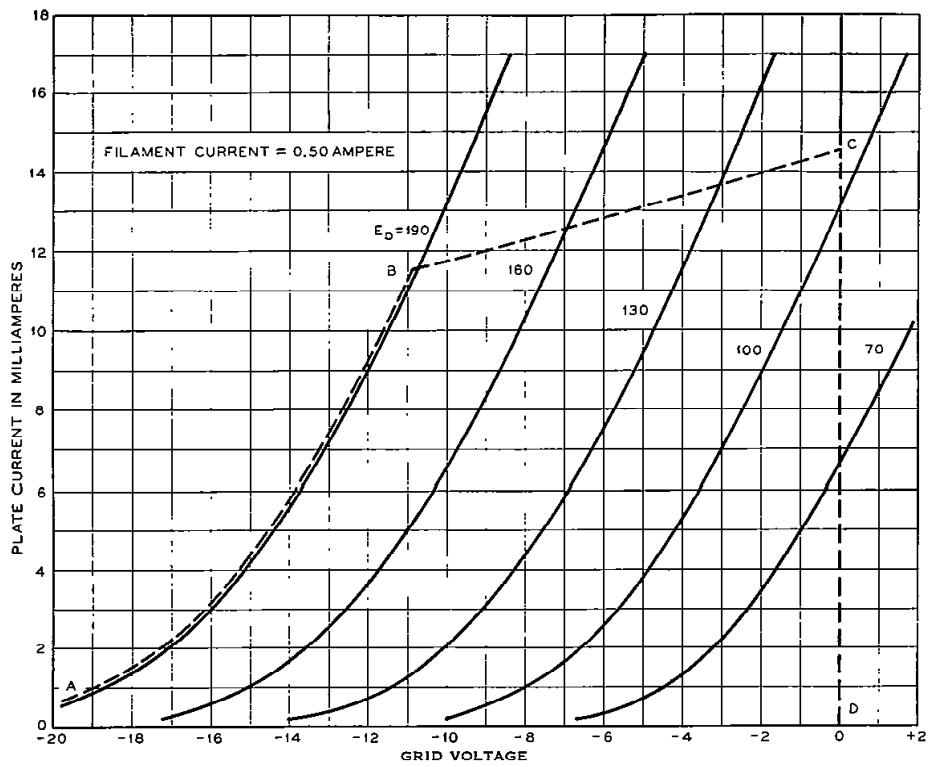

FIG. 3
**Characteristics and Operating Conditions**—Plate-current characteristics of a typical 101J tube are shown in Figure 3 as functions of grid bias. Permissible operating grid and plate voltages are included within the area ABCD. The grid and plate voltages are measured to the negative end of the filament. Corresponding amplification-factor, plate-resistance, and transconductance characteristics are given in Figures 4, 5, and 6, respectively. Plate-current characteristics are given as functions of plate voltage in Figure 7.